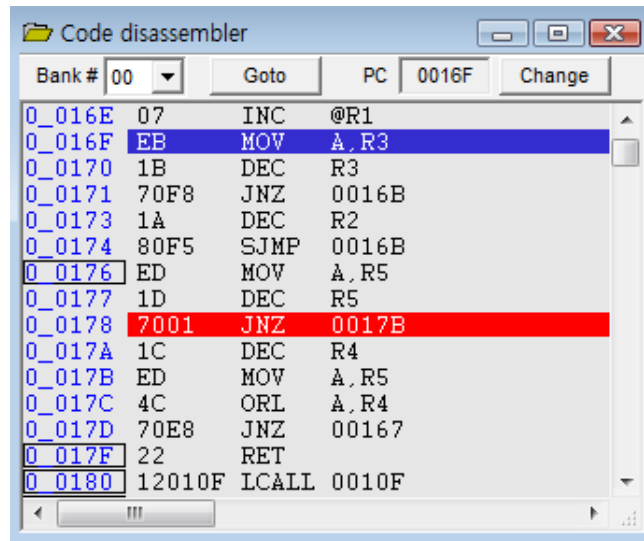

Figure 42. Using the PC Break Toggle Function
The target MCU's internal Program Counter (PC), sets or clears all PC breakpoint settings. The PC breakpoint count differs in each device in the Z8051 Series; normally, eight breakpoints can be set. In Figure 42, the red line represents a program counter breakpoint in the line, and the blue line represents the current program counter.